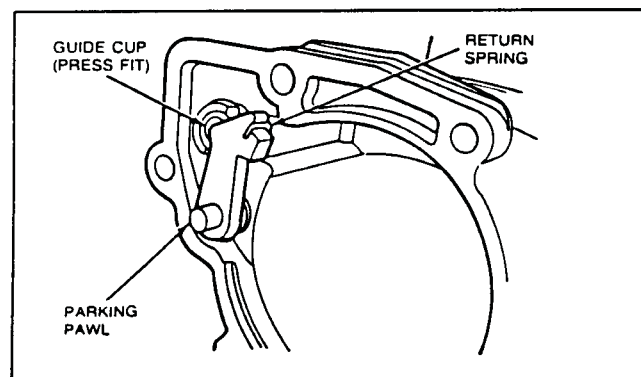

FIG. 51 Parking Pawl Installation
19. Install the parking pawl and its return spring in the extension housing and preload (Fig. 51).